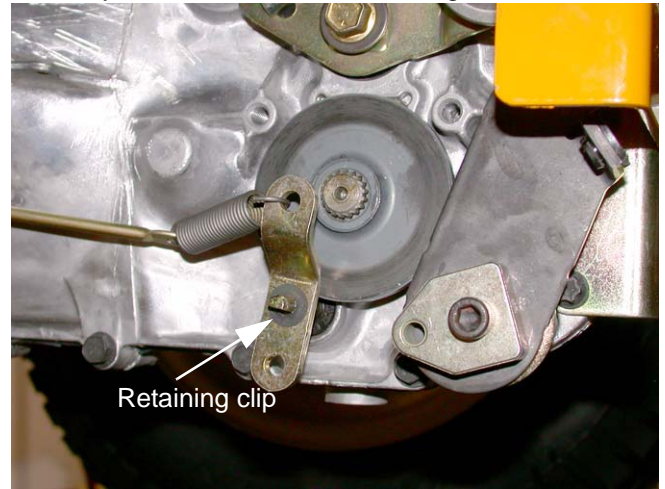

Figure 26.20
26.20. In order to remove the rotor and gain access to the fixed brake pad you will have to pry the retaining clip securing the hydro relief arm to the hydro relief valve shaft. See Figure 26.20.